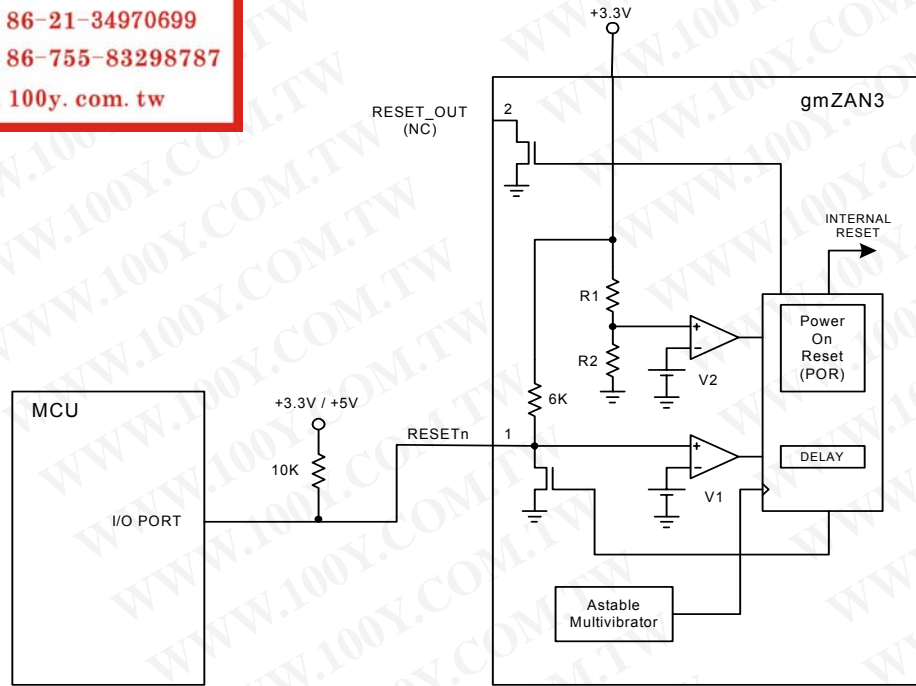

Figure 11. External MCU Re-setting gmZAN3
2. In figure 11, an external MCU generates the reset, applied to RESETh input of gmZAN3.